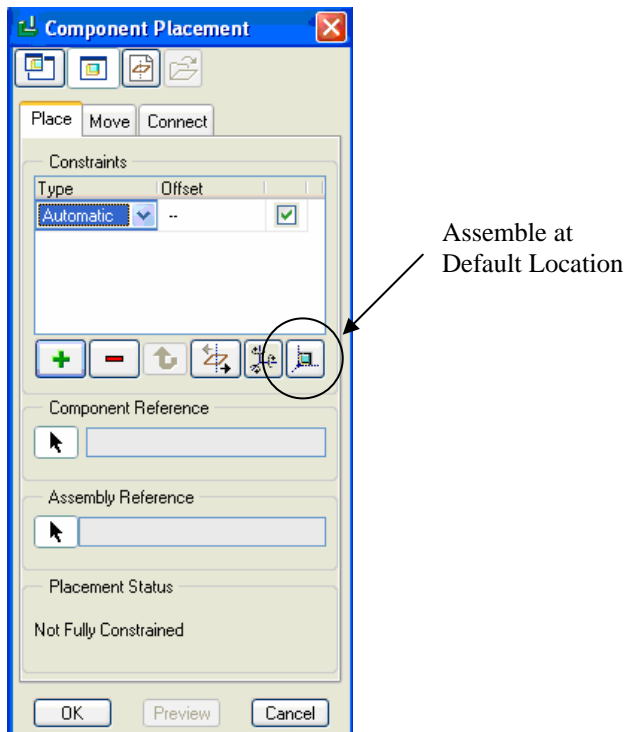

Figure 3: Component Placement
Step 5: Using the **Assemble Component at Default Location** Constraint Type, constrain the location of the reference model. (Figure 3). Choose **OK** to exit the Component Placement menu.